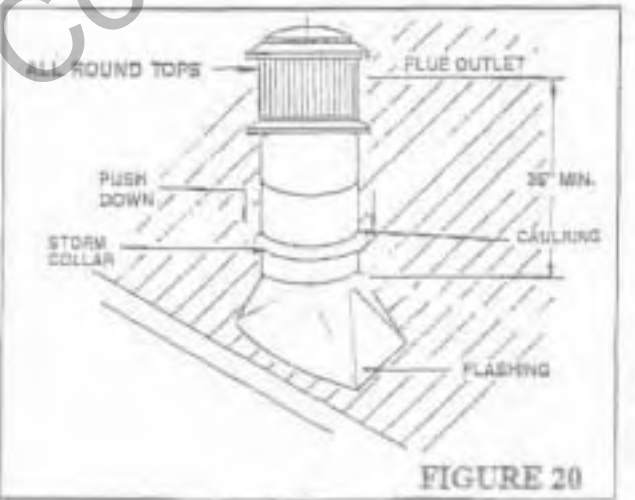

FIGURE 20
STEP 9: Install storm collar on the chimney and push down near the top of the flashing. Apply waterproof caulking around the top of the storm collar (Figure 20).